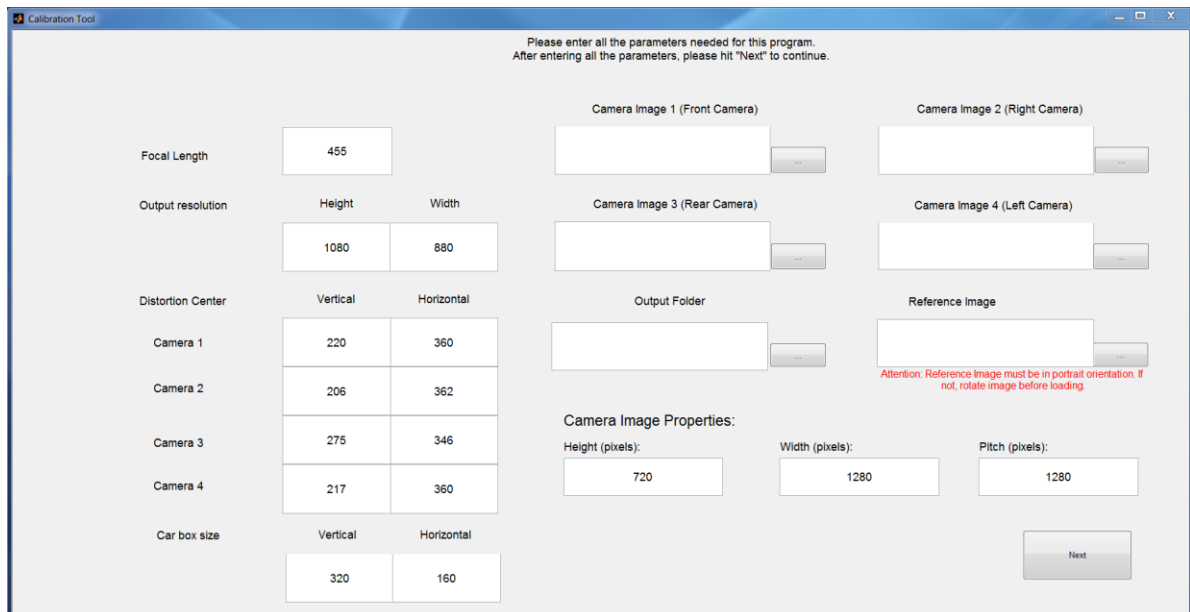

Figure 10 – Enter parameters.
2. Enter other parameters needed for calibration, as shown in Figure 10. Please follow the instructions for entering the parameters. If you have DSP code and you changed any of the default values for "Focal Length", "Output Height & Width", "Car Box Size Horizontal & Vertical" or "Camera Image Height, Width or Pitch", change the value here, too. Otherwise, leave default values.